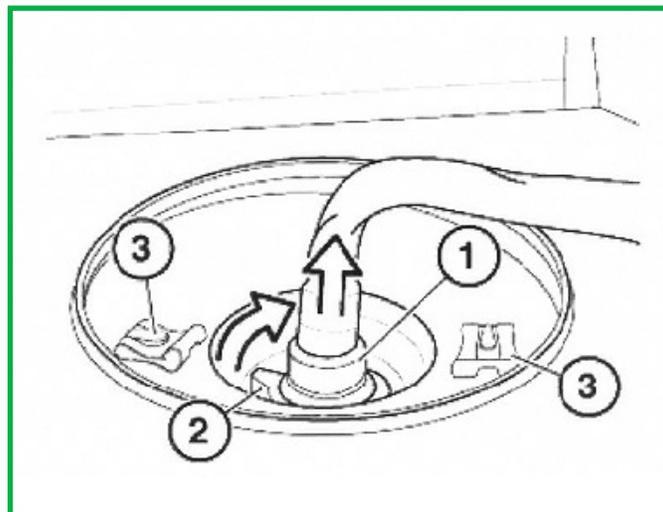

FIGURE 4
- Disconnect the top of the air spring by pressing the quick coupling (1) downwards, pressing the retaining ring (2) together, and detaching the air line. Remove the retaining clips (3). (Figure 4)